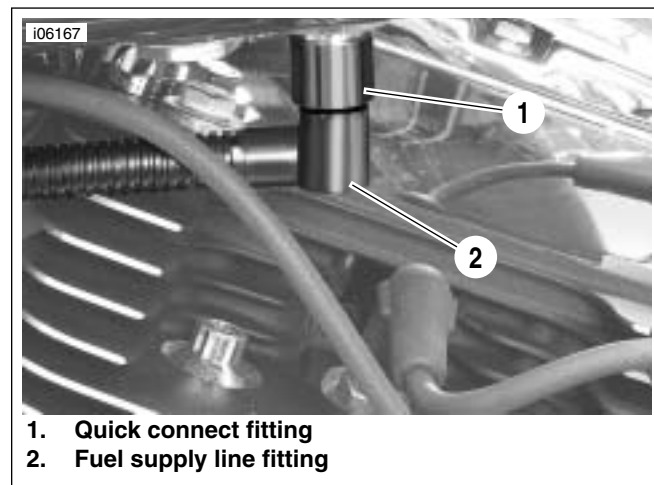

Figure 2. Fuel Supply Line Fitting - Fuel Tank
8. See Figure 2. Pull up on chrome sleeve of quick-connect fitting (1) and pull down on fuel supply line fitting (2) to disconnect.
2. See Figure 2. Pull up on chrome sleeve of quick-connect fitting (1) on left side of tank and insert neck of fuel supply line fitting (2). While pushing up on bottom of fuel supply line fitting, pull down on chrome sleeve until it “clicks” into the locked position. Tug on fuel supply line to be sure that it will not come free.